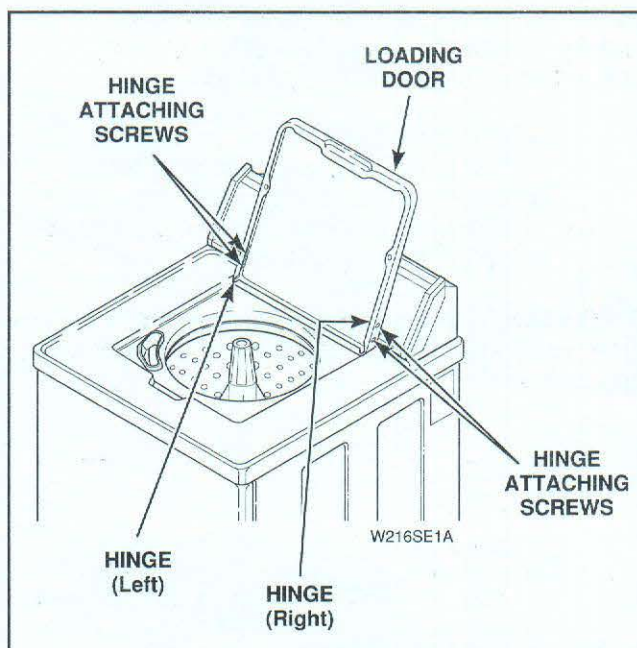

Figure 11
- Open loading door, *Figure 11*.
- Remove two screws holding left hinge to door and remove hinge and gasket, *Figure 11*.